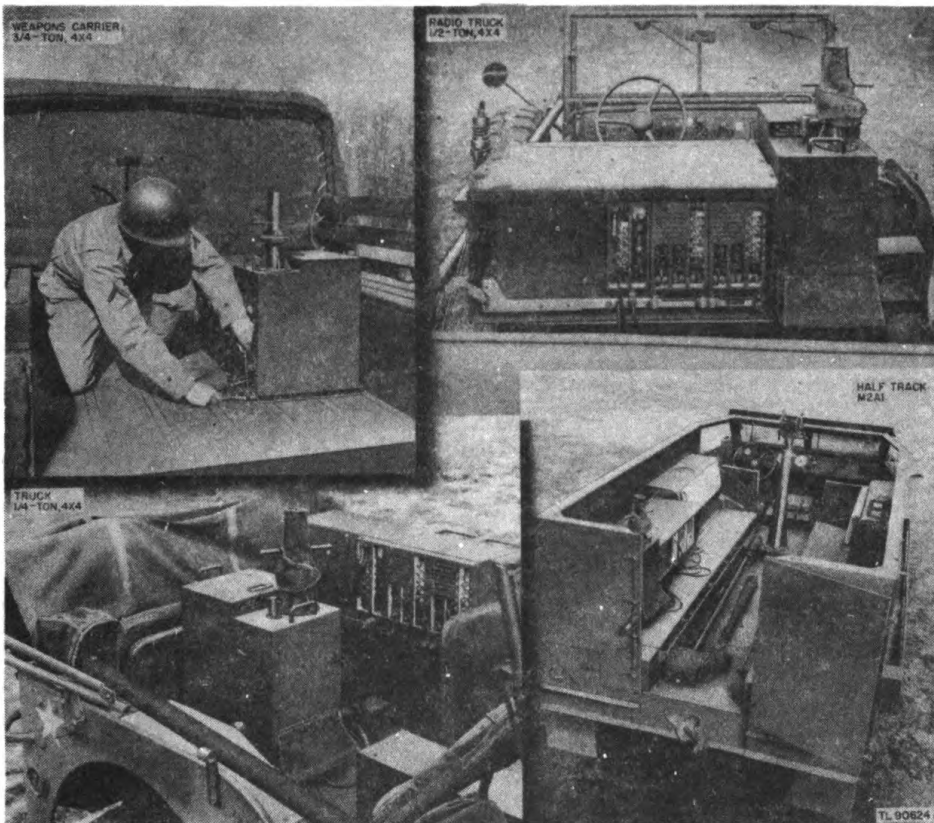

Figure 21. Beacon mounted in various vehicles.
a. Radio Beacon Equipment RC-163 can be installed in any vehicle having a Radio Set SCR-508-( $\&$ ) or SCR-608-( $\&$ ) installation and capable of accommodating the antenna array. Recommended vehicles include jeeps, half-tracks, command cars, and weapons carriers (fig. 21). If other than a recommended vehicle is used, make sure there is ample room for storage and the Adcock elements of the beacon array clear the metal sides or cab of the vehicle by at least 6 inches. This clearance is necessary to prevent antenna pattern distortion.